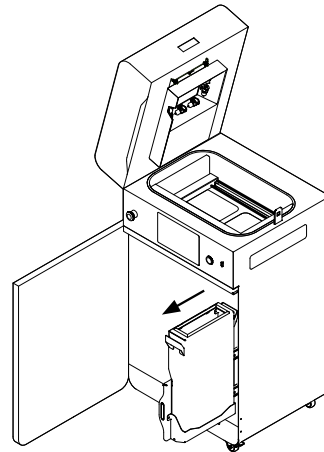

Fig. 9.2 Sliding out the drawer with an overflow container.
3. Open the printer door and slide out the drawer with an overflow container (fig. 9.2).